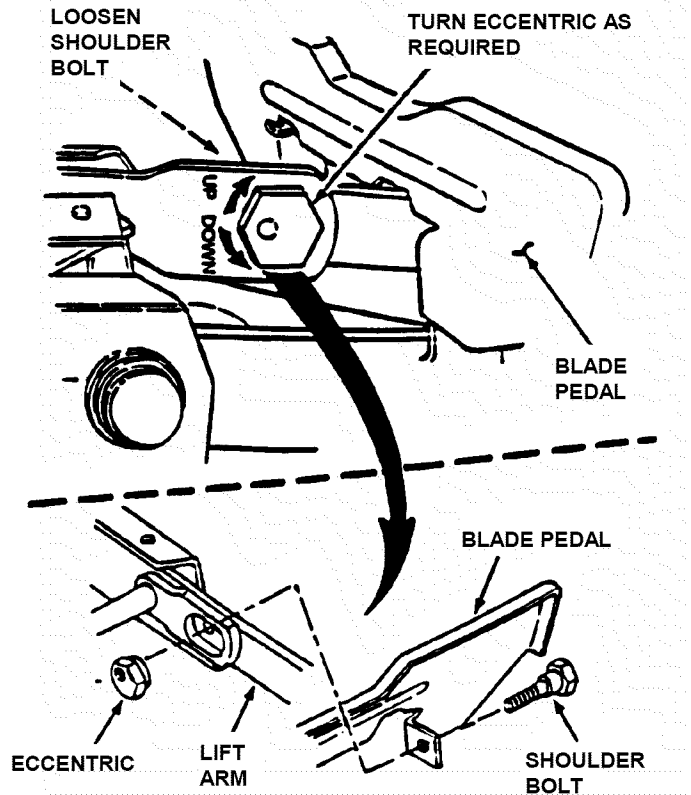

FIGURE 4.4
6. Loosen the shoulder bolt retaining the left side of blade pedals. See Figure 4.4.
7. Turn eccentric "UP" or "DOWN" as required until blade tips are within $1/8$ " of each other. See Figure 4.4.